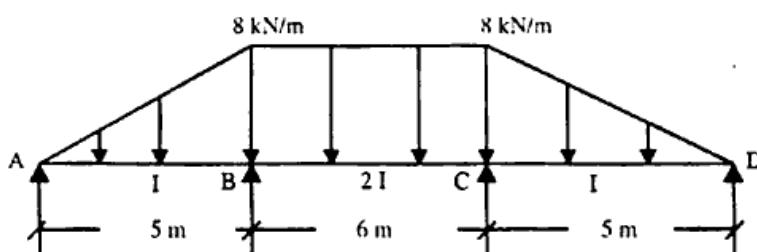

Fig. 2
3. Analyse the continuous beam shown in Fig. 2 by Kani's method, also draw BMD.